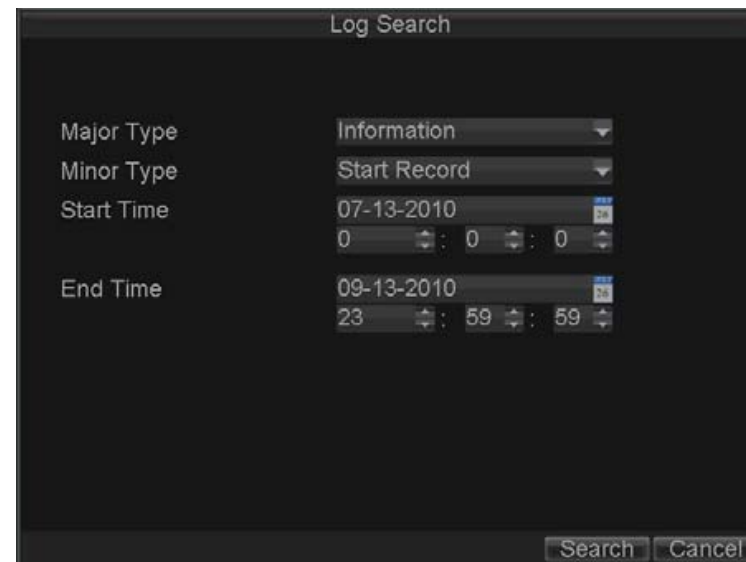

Figure 13.4. Log Search Menu
- 1) Click Menu > Maintenance > Log Search to enter the Log Search menu, shown in Figure 13.4.